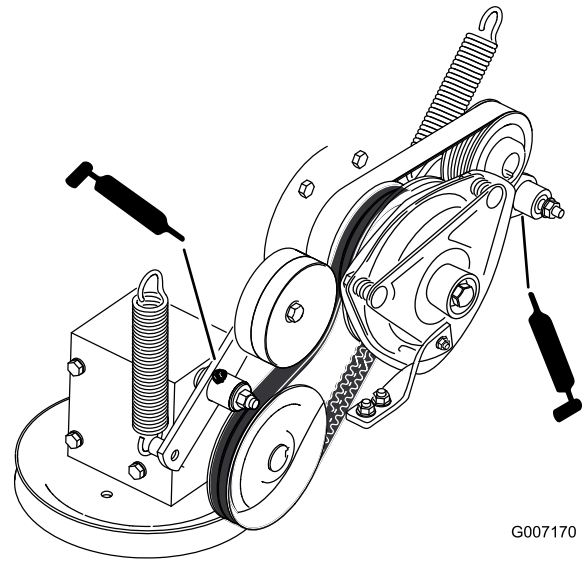

Figure 32
5. Grease the PTO drive belt idler arm (Figure 32).
6. Grease the pump belt idler arm (Figure 32).